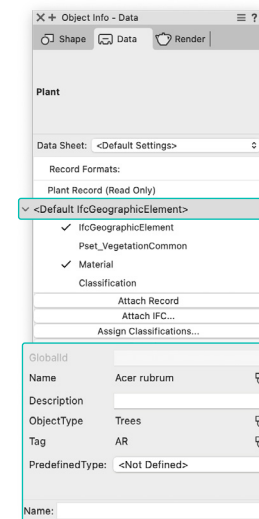

FIGURE 21: IFC data editing through the Object Info Palette
2. Click the **Data** pane in the Object Info palette. The assigned IFC entity type displays at the top of the palette (Fig. 21). All default property sets for the IFC entity display below the entity type name. Property sets in use will have a check mark to the left of the property set name.
4. Once the property set is added, the values for the parameters of the set displays below the buttons (Fig. 21). Some fields can be filled out directly. If the parameter field is grayed out and cannot be accessed, this indicates that the parameter is populated by either a predefined default mapping from an object parameter, or from a user-defined mapping (see the IFC Data Mapping Command section of this document).